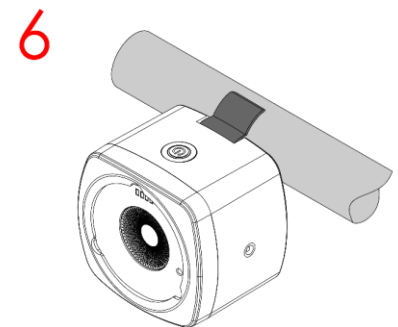

Fig. 14
- 01) Remove the **mounting bracket (05)** from the device.
- 02) Use the special powerbox clamp to attach the device to the supporting structure, as shown in Fig. 14.